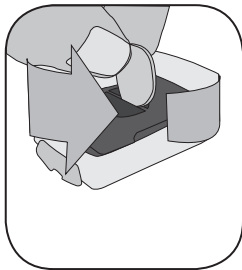

Figure 16- Removing battery cover
3. Insert a large coin into the slot and rotate in a counter-clockwise direction about one-quarter turn (Figure 16).